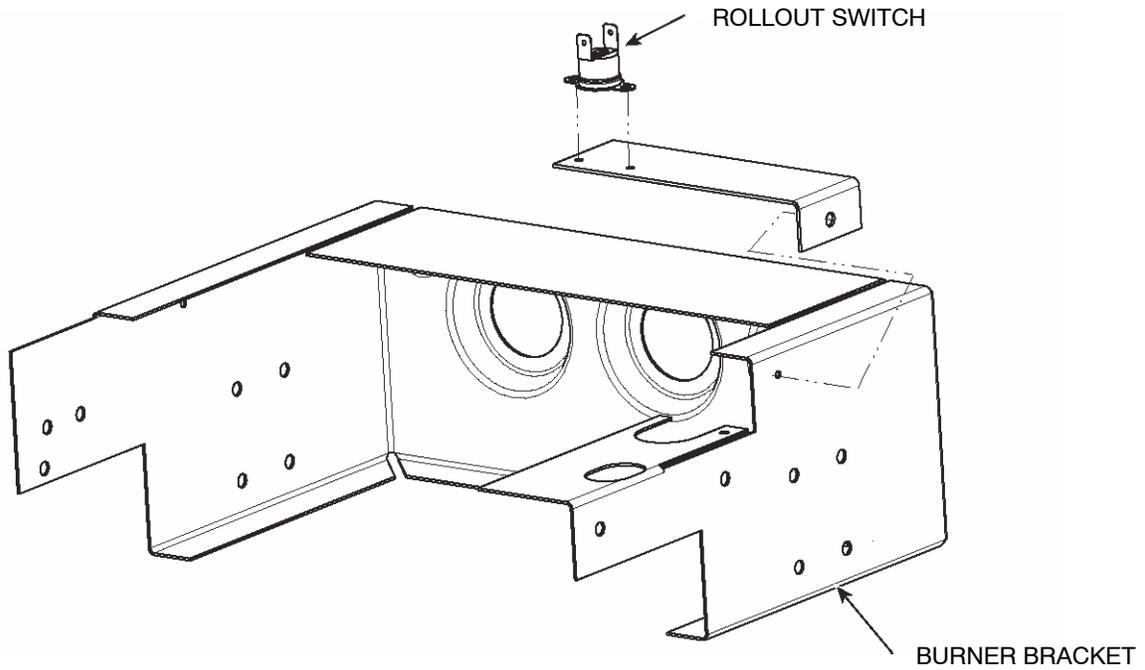

Figure 8
11. If there is a low gas pressure switch mounted to the gas valve (see Fig. 8) it must be removed. Disconnect the switch and all of the 1/8-in NPT pipe fittings leading back to the gas valve. Plug the open hole in the gas valve with the 1/8-in. pipe plug contained in this kit. Use a suitable pipe sealant (field-supplied, must be certified for use with natural gas) to prevent leakage of combustible gas.